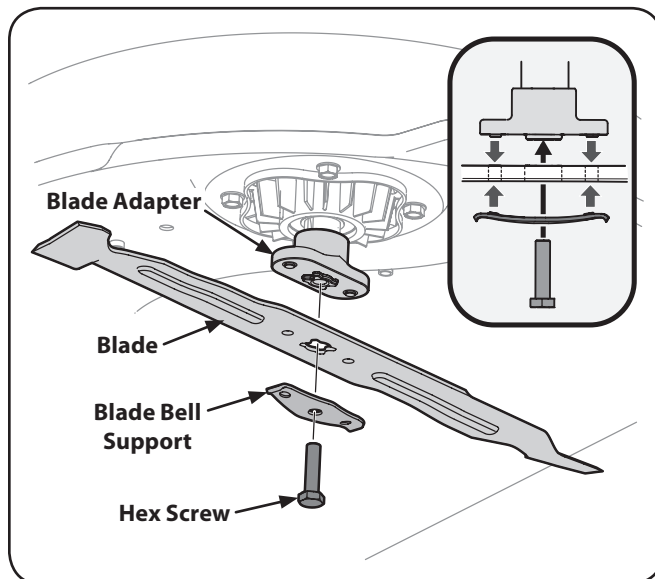

Figure 7-1
2. Remove the hex screw and the blade bell support which holds the blade and the blade adapter to the deck motor. See Figure 7-1.
3. Remove blade and adapter from the deck motor spindle. See Figure 7-1.